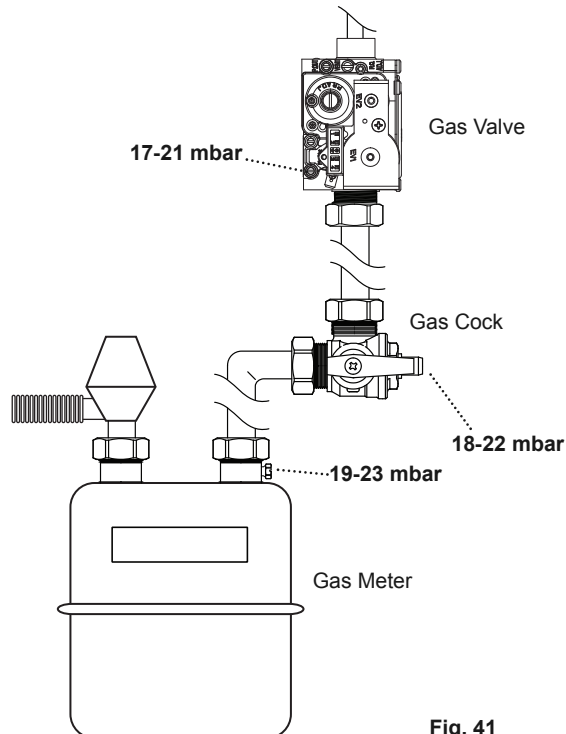

Fig. 41
2. With the boiler operating in the maximum rate condition check that the operational (working) gas pressure at the inlet gas pressure test point is in accordance with B.S. 6798 & B.S. 6891. This must be AT LEAST 17mb at the valve & 18mb at the gas cock ! (Fig. 41).